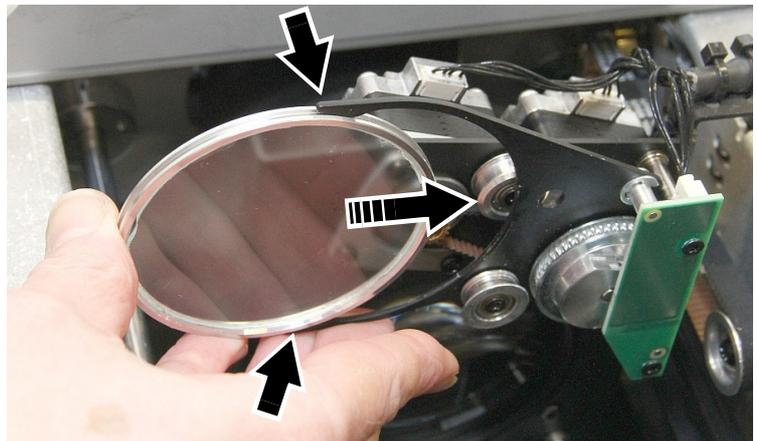

Figure 25: Installing the frost filter
- The frost filter is glued into a metal holder. Look carefully at the holder and note which side of the holder the glass is glued into. Turn the frost filter so that this side – the side that the glass is glued into – faces *towards the back* of the fixture. See Figure 25. Slide the filter into the jaws (arrowed) and check that it is held securely.